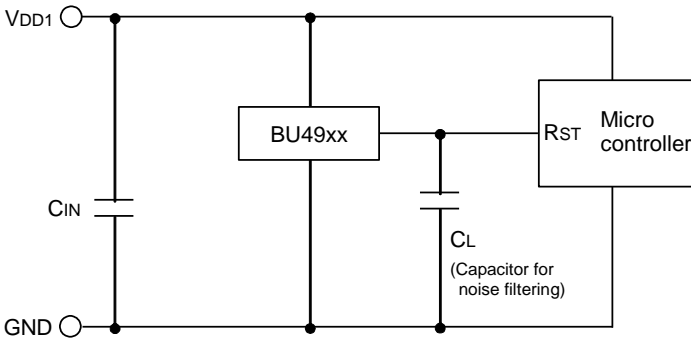

Fig.16 CMOS Output type
CASE2:The power supply of the microcontroller (VDD1) is same as the power supply of the reset detection (VDD1). Use CMOS output type (BU43xx series) or Open Drain Output Type (BU48xx series). Attach a load resistance (RL) between the output and VDD1. (As shown Fig.16)